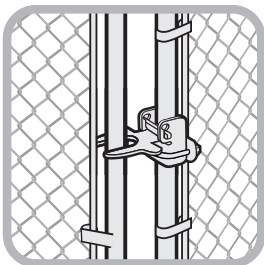

**FIGURE 4**
1. Lay the gate flat with the hinges positioned on your right. Slide a **side rail (I)** into the upper and lower receiving tubes of the **gate perimeter (B)**. Wait to tighten set screws on the receiving tube of the gate perimeter. You will tighten these set screws in step 4.9
2. Attach the **corner stand with clips (G)** to the upper and lower side rails on the latch side of the gate (make certain the leg extension is positioned on the bottom). Tighten set screws (do not over tighten). (FIGURE 4)
3. Attach the **corner stand without clips (F)** on the right side of the side rails. Tighten set screws.